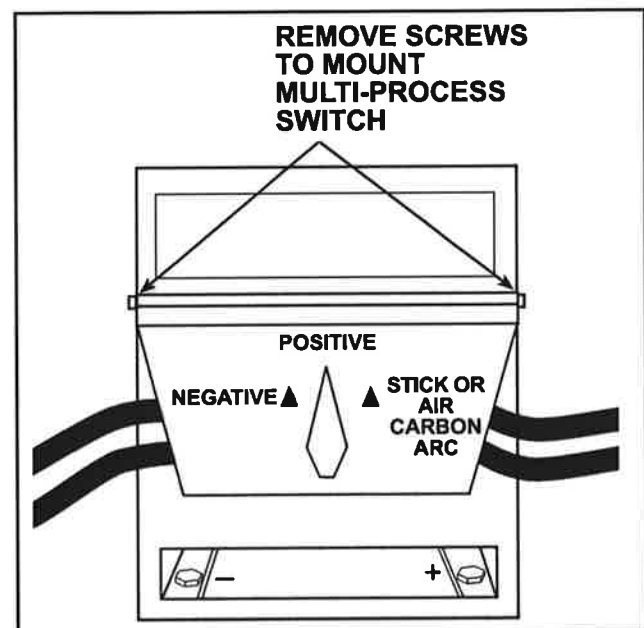

FIGURE C.2 - SIDE PANEL REMOVAL
4. Remove the two front, middle screws that secure the two side panels of the machine. See Figure C.2.